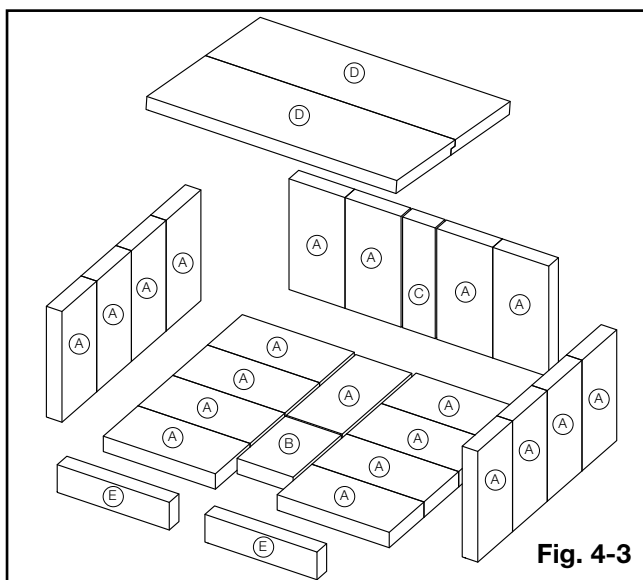

Fig. 4-3
With the appliance and chimney installation completed, move the bricks into place as illustrated below (**Fig. 4-3**).
Place brick (C) in the centre, with two (A) bricks on either side as illustrated (**Fig. 4-3**).